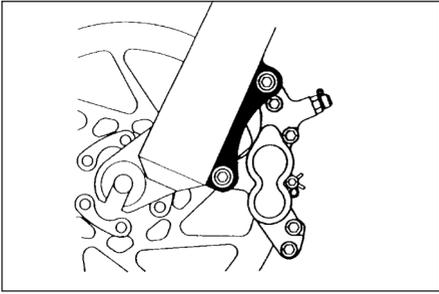
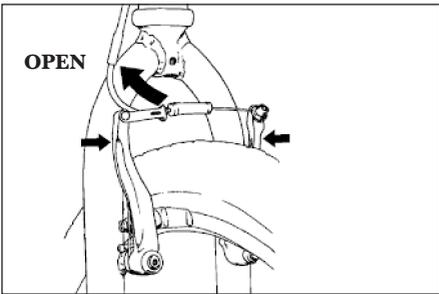

Figure 11.
Figure 12.
- (1) If your bike has rim brakes, disengage the brake's quick-release mechanism to increase the clearance between the tire and the brake pads (See Section 4.C fig. 11 through 15).
- (2) If your bike has rim brakes, disengage the brake's quick-release mechanism to increase the clearance between the wheel rim and the brake pads (see Section 4.C, figs. 11 through 15).
- (3) On a derailleur gear system, pull the derailleur body back with your right hand.
3. Some bicycle brakes, such as disc brakes (fig. 11) and linear-pull brakes (fig. 12), are extremely powerful. Take extra care in becoming familiar with these brakes and exercise particular care when using them.
Most rim brakes have some form of quick-release mechanism to allow the brake pads to clear the tire when a wheel is removed or reinstalled. When the brake quick release is in the open position, the brakes are inoperative. Ask your dealer to make sure that you understand the way the brake quick release works on your bike (see figs. 12, 13, 14 & 15) and check each time to make sure both brakes work correctly before you get on the bike.